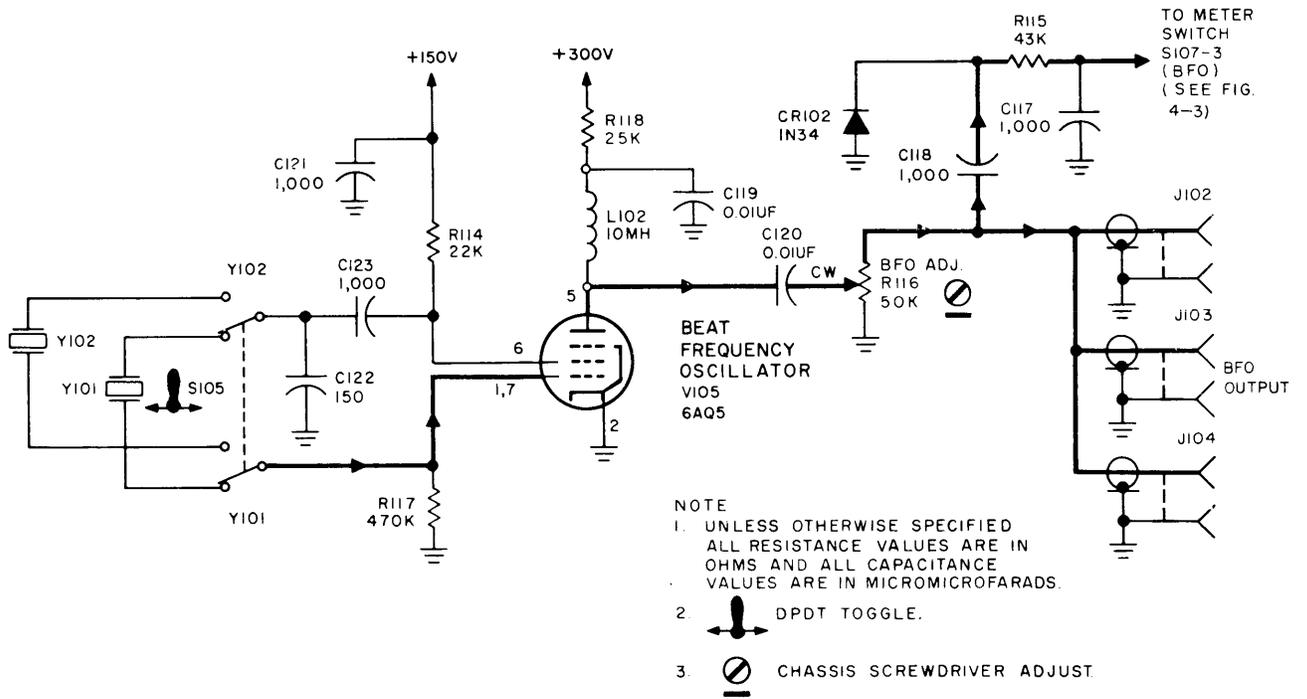

Figure 4-7. Schematic Diagram, BFO Circuit
b. BFO CIRCUIT. (See figure 4-7.) - This stage is also a crystal oscillator but has two crystal positions, either one of which may be chosen by means of BFO toggle switch S106. The output jacks are capacitively coupled to the tank through an output control. The output voltage is controlled by potentiometer R116 mounted on the rear of the power supply chassis. Metering of the outputs is accomplished in the same manner as described in paragraph 4-3a.